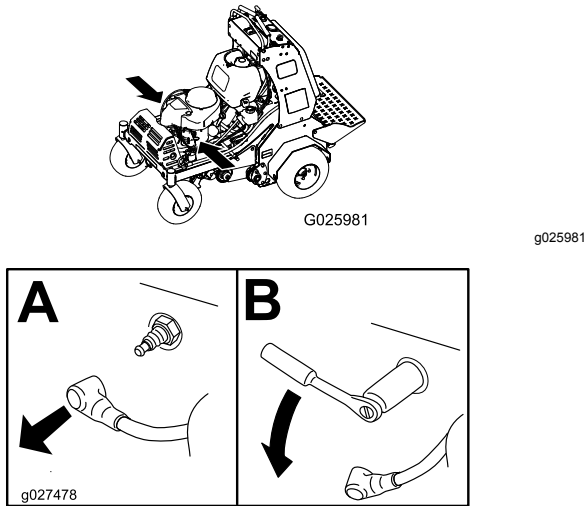

Figure 43
2. Remove the spark plug as shown in Figure 43.